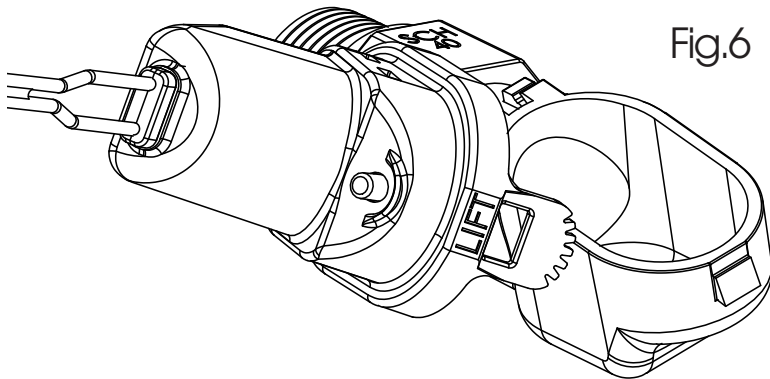

Fig.6
- b. Gently turn to the right or left to remove cap (See Fig. 6).